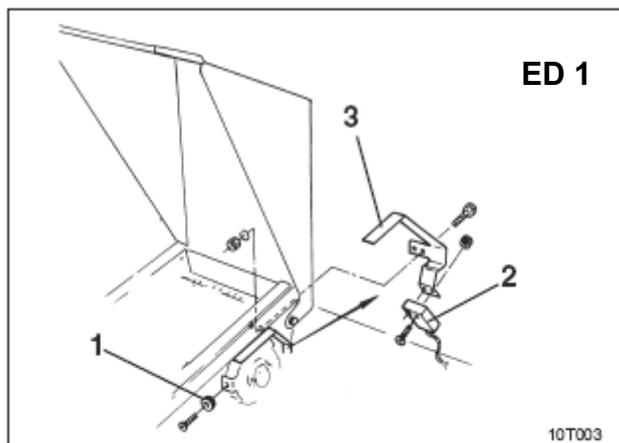
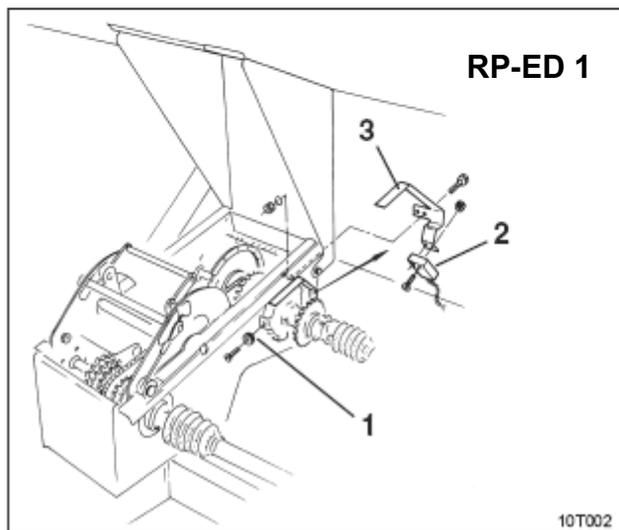

Fig. 9.6
Fig. 9.7
Attach sensor and magnet for **ED 1** (Fig. 9.6) and/or **RP-ED 1** (Fig. 9.7) to input of chain wheel adjustment gear:
- Bolt magnet (Fig. 9.6/1 / Fig. 9.7/1) with self-tapping screw M4 x 10 onto impulse disc of gearbox input shaft.
- To attach the sensor, loosen impulse holder (Fig. 9.6/3 and/or Fig. 9.7/3) and then re-bolt.
- Bolt sensor (Fig. 9.6/2 or Fig. 9.7/2) to impulse holder (Fig. 9.6/3 and/or Fig. 9.7/3).